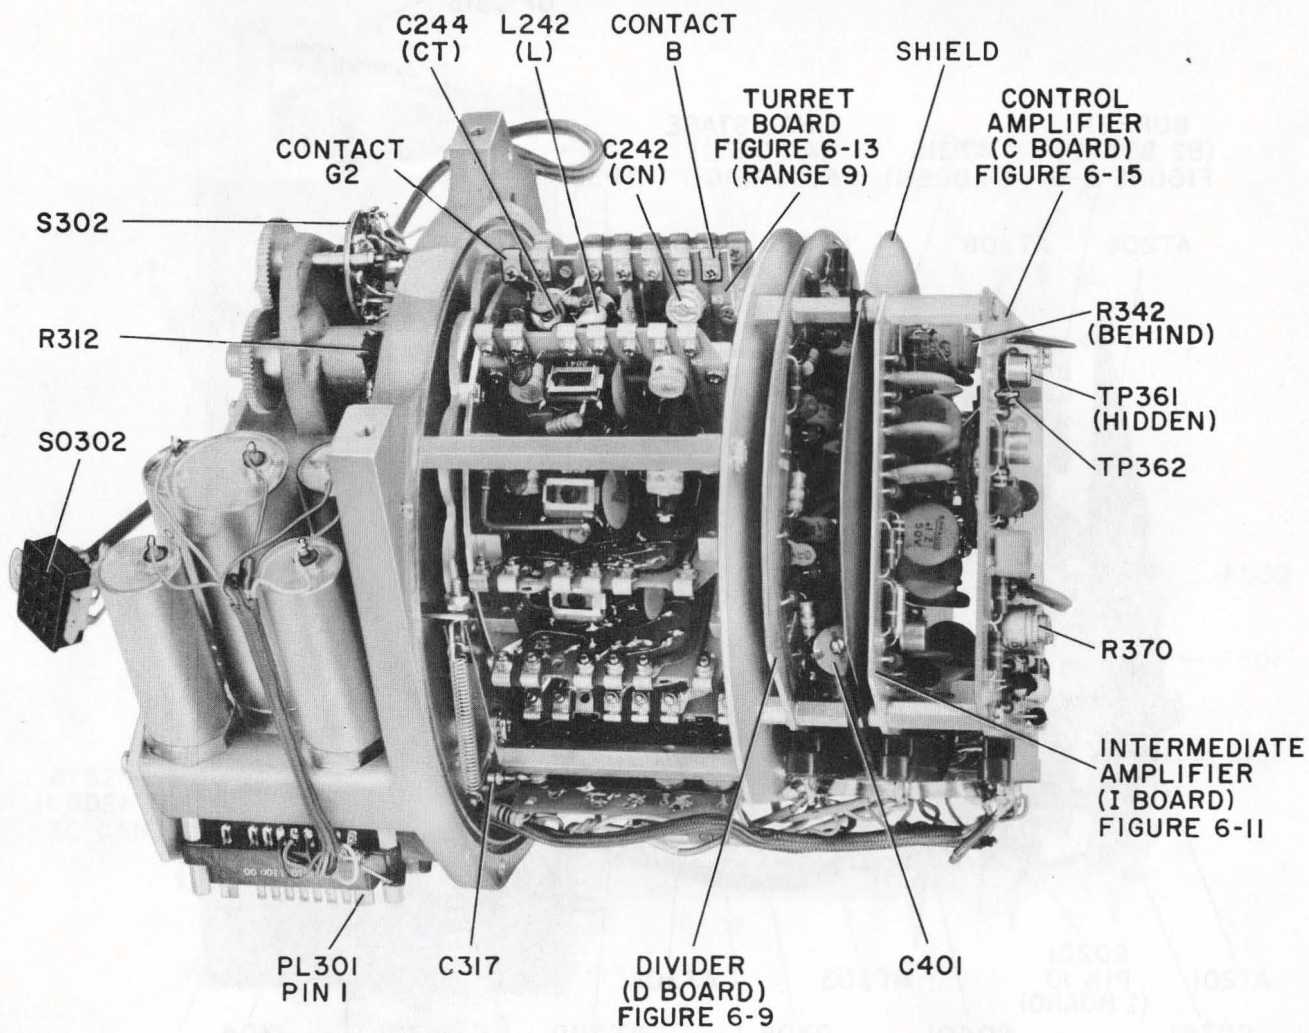

Figure 5-6. Power amplifier, bottom view.
- b. Remove C-board (control amplifier) by gently sliding off connector SO361, then removing the 4 screws (Figure 5-6).